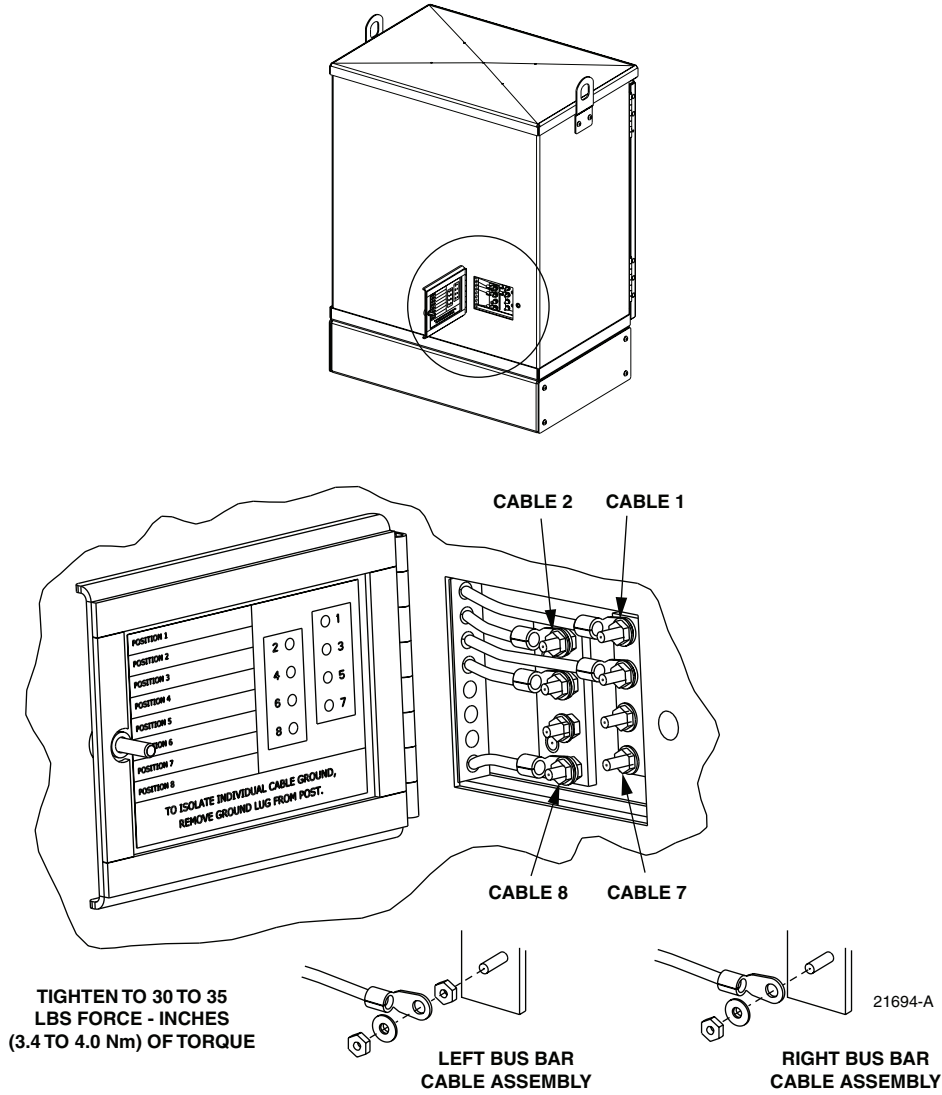

Figure 52. Grounding Block Access Cover
1. Locate the small hinged access cover at the rear side of the cabinet as shown in Figure 52.